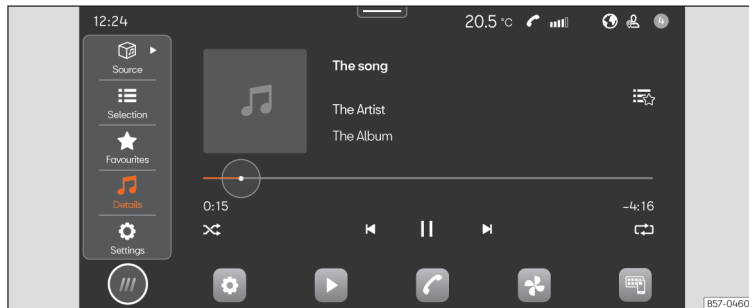

Fig. 139 Schematic representation: Media view
- Press **HOME** > ► >>> **Fig. 139**.